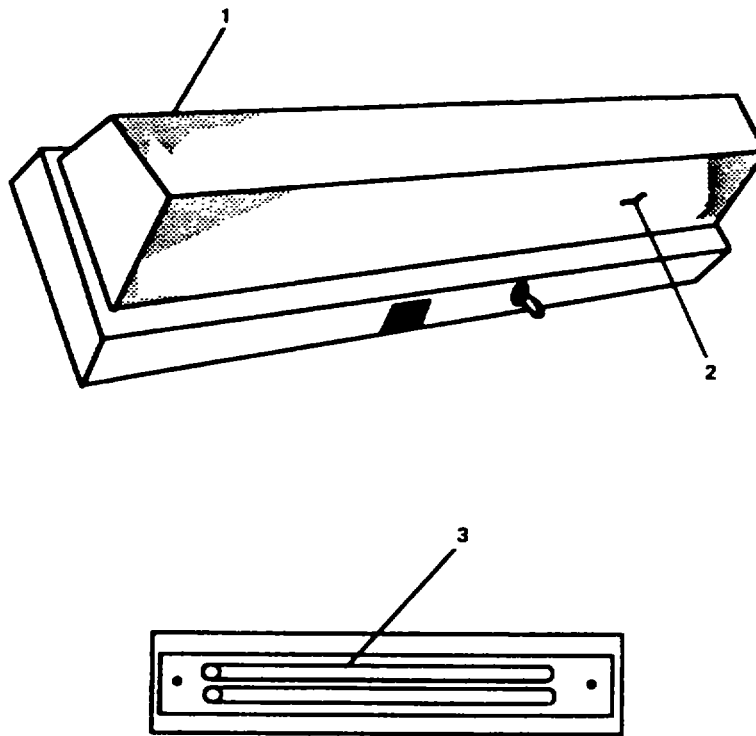

Figure 2-73. Repair Fluorescent Light. Surface Mount.
- a. Remove screws (1, Figure 2-73).
- b. Remove diffuser (2).
- c. Remove fluorescent lamps (3).